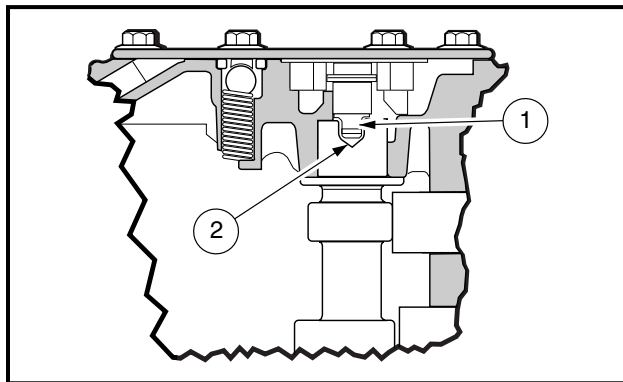

Figure 3-94 Proper Seating of Tang into Camshaft Slot
- When installing the camshaft, make sure that the tang (1) on the oil pump rotor seats in the slot (2) in end of the camshaft (**Figure 3-94, Page 3-43**). If the oil pump tang is not seated in the slot in the camshaft, serious engine damage will result.